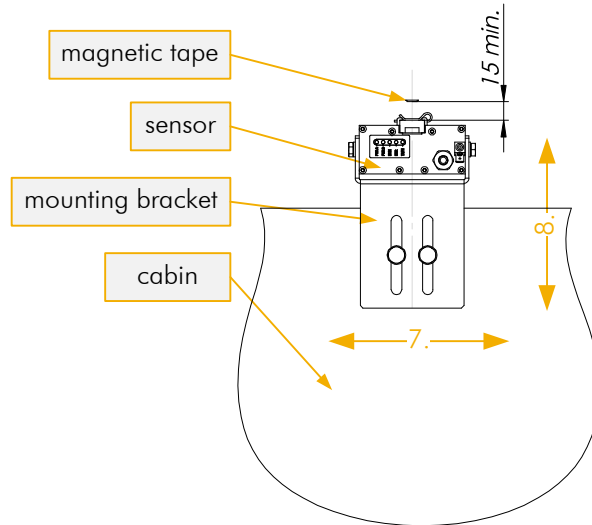

Fig. 9: Distance and orientation of the magnetic tape in relation to the sensor.
7. Adjust the position of the sensor using the tape as a reference. First align the sensor and magnetic tape on their centerline. (Step 7 in Fig. 9).